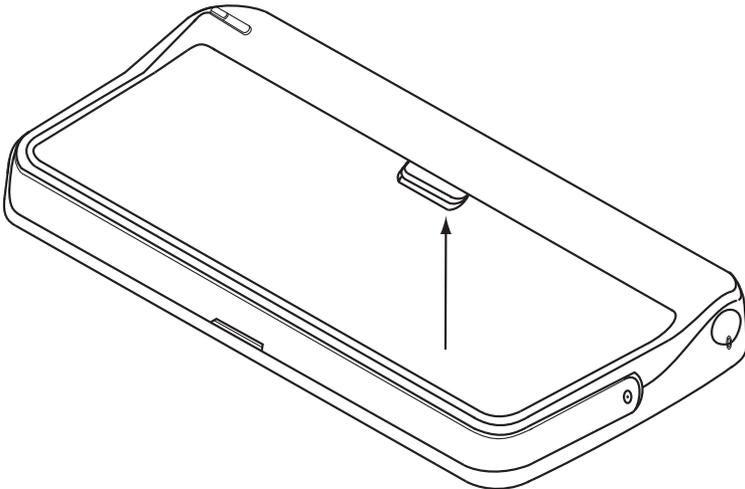

Figure 4.53: Remove Rear Panel
- Replace the battery as shown in *Figure 4.53*. Replace the rear panel.